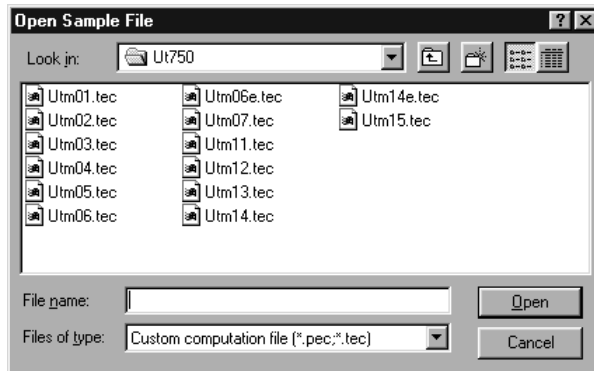

Figure 7.3.2 [Open Sample File] Dialog Box
- (1) From the tool menus, click <File>, then <Open Sample File...>. The [Open Sample File] dialog box (Figure 7.3.2) appears.
- (2) From the list box, choose the file in question.
- (3) Click the <Open> button.
- (4) When file reading is complete, the message of [Data have been loaded] appears. The [Custom Computation Configuration Menu] dialog box appears.
- (5) Click the <OK> button.